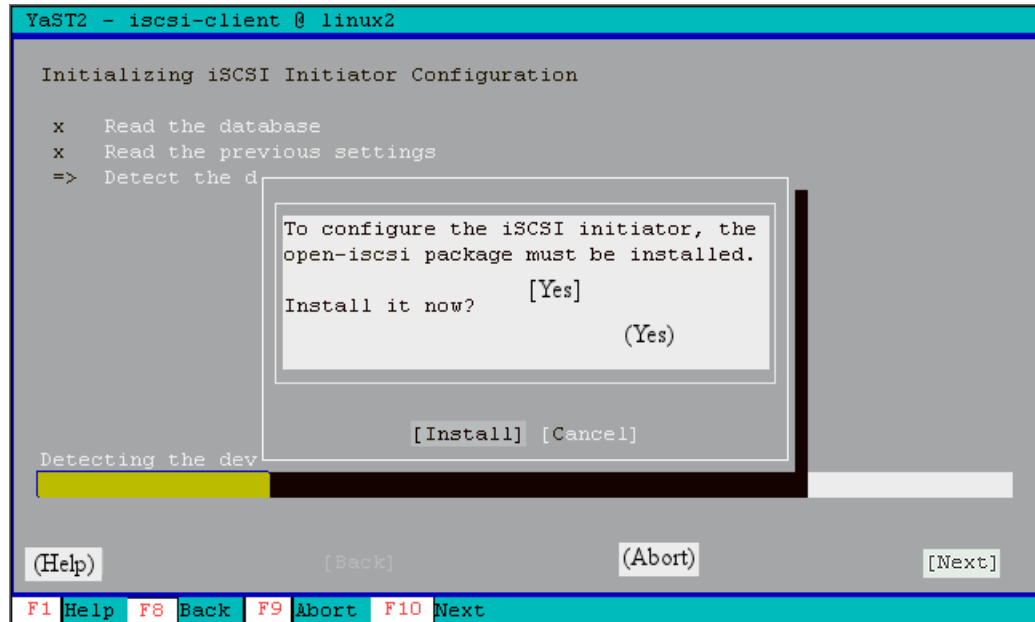

Figure 20-16 Press Enter key to install the necessary packages
2. Now it is necessary to configure the `iscsi` initiator that is also called client. On a Linux terminal type `yast iscsi-client`. A panel for installing the necessary packages will appear as shown in Figure 20-16 on page 603. Press Enter to select Install. You need to have the SLES CD-ROM installation media or an online software repository previously configured.